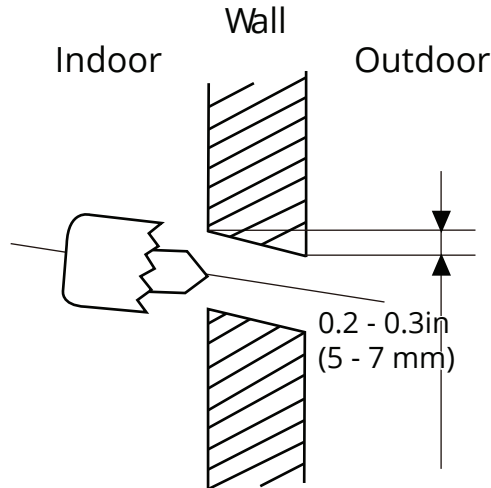

Fig.5.2
2. Using a core drill [3.54in (76.2mm)], drill a hole in the wall. Make sure that the hole is drilled at a slight downward angle, so that the outdoor end of the hole is lower than the indoor end by about 0.2 to 0.275in (5mm-7mm). This will ensure proper water drainage. (See **Fig. 5.2**)